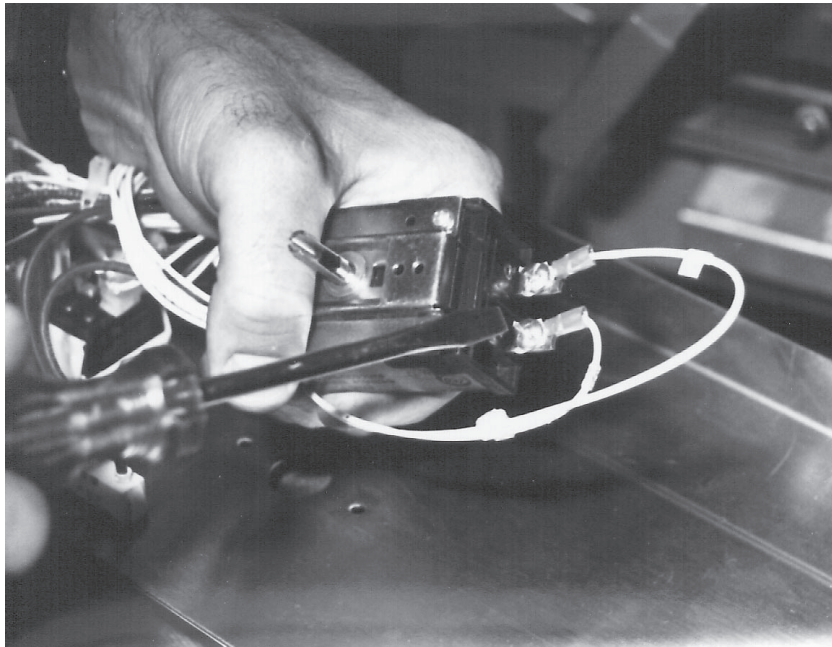

Fig. 25
7. Note and using a flat blade screwdriver, disengage all wiring from the thermostat body. (Fig. 25)